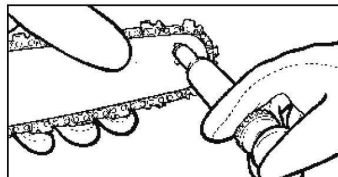

Fig. 6
- Using a bar lubrication gun, insert needle nose into the lubrication hole and inject grease until it appears at the outside edge of the sprocket tip (Fig. 6).